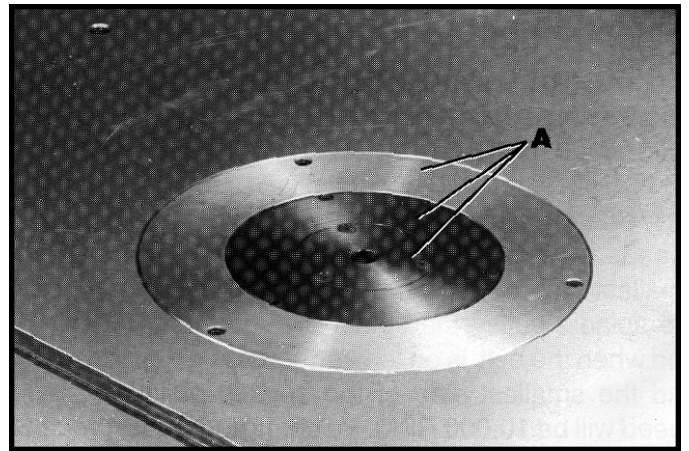

Fig. 44
Three table inserts (A) Fig. 44, are supplied with your machine and can be removed individually for use with various size cutters.